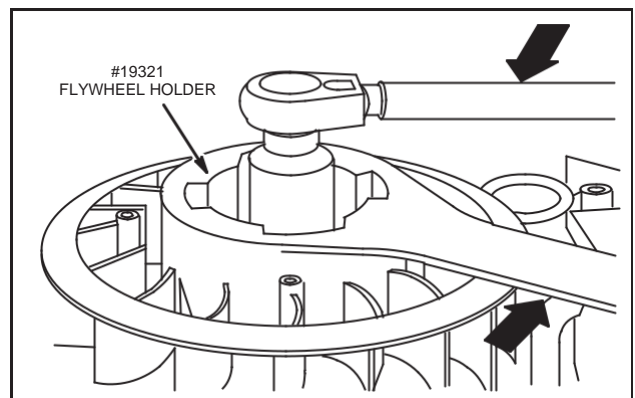

Fig. 13 – Install Flywheel
5. Assemble flywheel holder, Tool #19321 to retainer, Fig. 13.